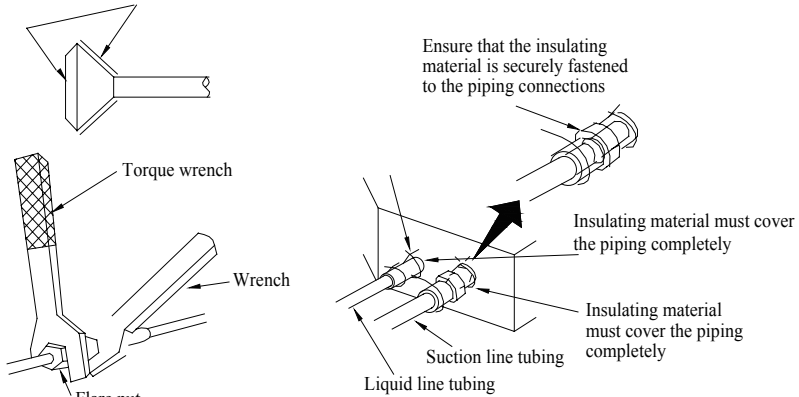

Fig. 5
- ◆ When connecting piping to the unit or removing from the unit, please use both a back-up wrench and torque wrench (as shown in Fig.5 below).
- ◆ Check all flare connections with soapy water or other leak detection method and if no leaks are found, then insulate all connections with the proper insulating materials, as shown in Figure 5 below.